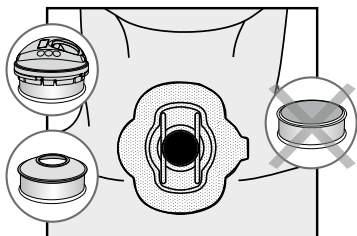

Figure 8
- Do not use the HME cassette without assembling it first with Provox FreeHands FlexiVoice Speaking Valve or Provox HME Cap. The HME can get stuck in the attachment holder when used by itself (Fig. 8).